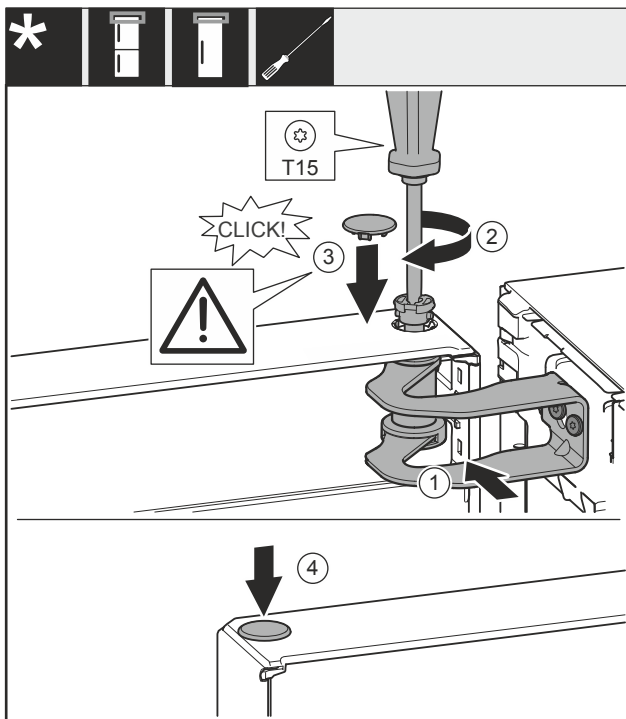

Fig. 25
- ▶ Align the door with the opening in the swap bearing block Fig. 25 (1).
- ▶ Insert the bolt Fig. 25 (2) and use screwdriver to tighten it.
- ▶ Insert the cover Fig. 25 (3).
- ▶ Check that the cover Fig. 25 (3) is resting on the door.
- ▶ Insert the cover Fig. 25 (4).